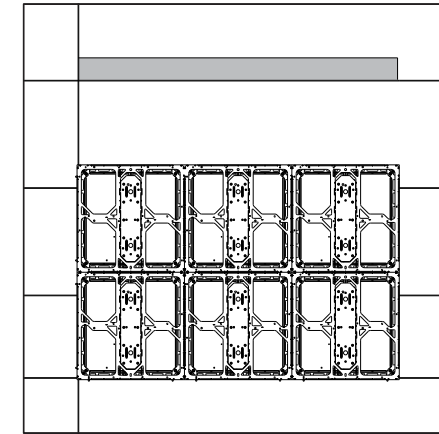

Figure 7: Install Second Row of Panels
8. Start on the next row after the bottom row is completed, working from the center out and performing the top-to-bottom connections before the side-to-side connections. Refer to Figure 7.